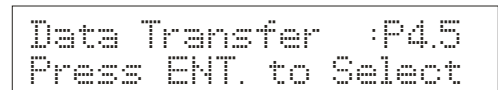

Figure 179
3. Use  $\Delta/MI$  key to scroll to program *Data Transfer: P4.5*. See **Figure 179**.